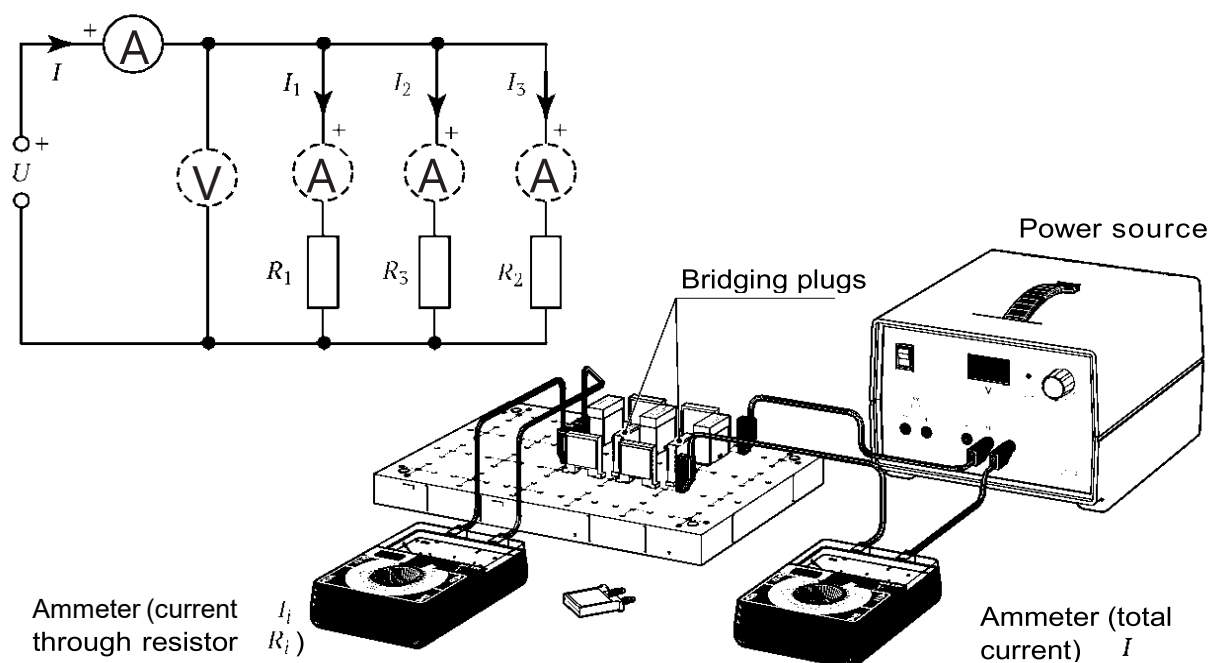

Fig. 33.2. Setup for parallel connection resistors
1. Assemble the electric circuit as shown in Fig. 33.2.